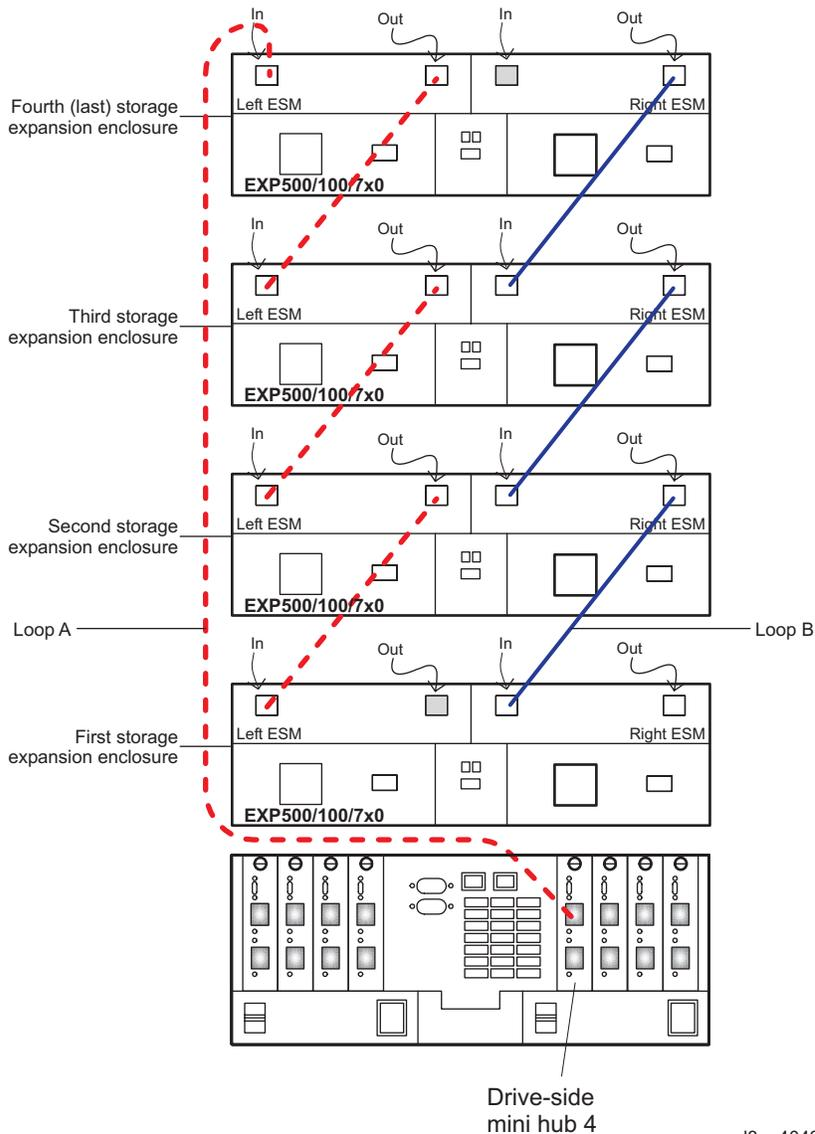

Figure 64. Connecting EXP500, EXP100, EXP700, or EXP710 drive loop A to the DS4500
1. Connect drive loop A to the DS4500 Storage Subsystem, as shown in Figure 64.